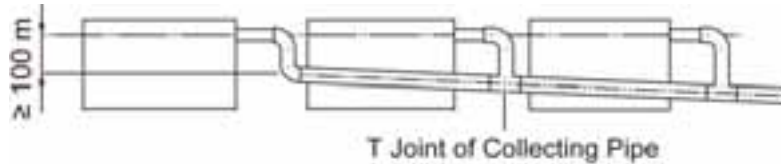

Fig 4.3.4
- (4) When connecting several drain pipes, follow the instruction as shown in Fig. 4.3.4. Choose the drain collecting pipe that matches unit capacity.